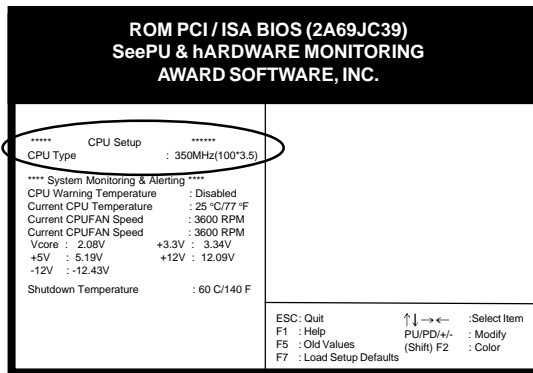

Figure 2-2
2. Move the cursor to SeePU & HARDWARE MONITORING menu and press Enter. Find the CPU Setup commands at the right hand part of the BIOS screen (Figure 2-2) Commands for operating the cursor in BIOS are found at the lower right of the BIOS screen.